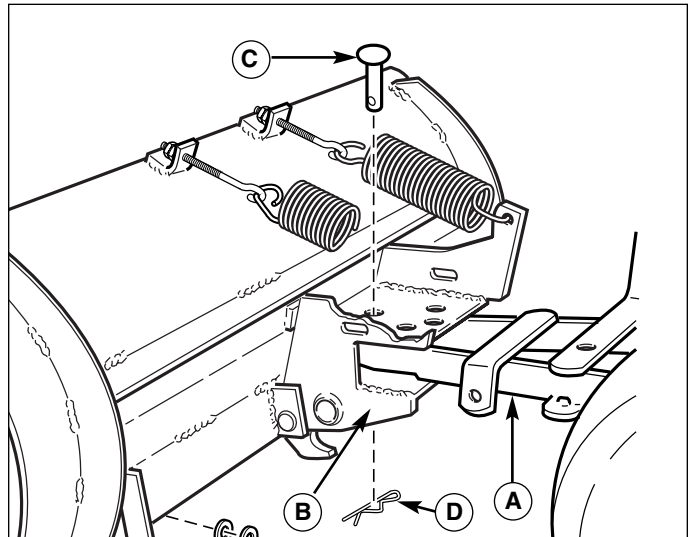

Figure 18. Dozer Blade Assembled and Installed
1. Insert the front of the push bar (A, Figure 18) into pivot frame (B) on rear of blade. Then install pivot pin (C) down thru front holes in blade and push bar. Secure the pivot pin (C) with a spring clip (D).